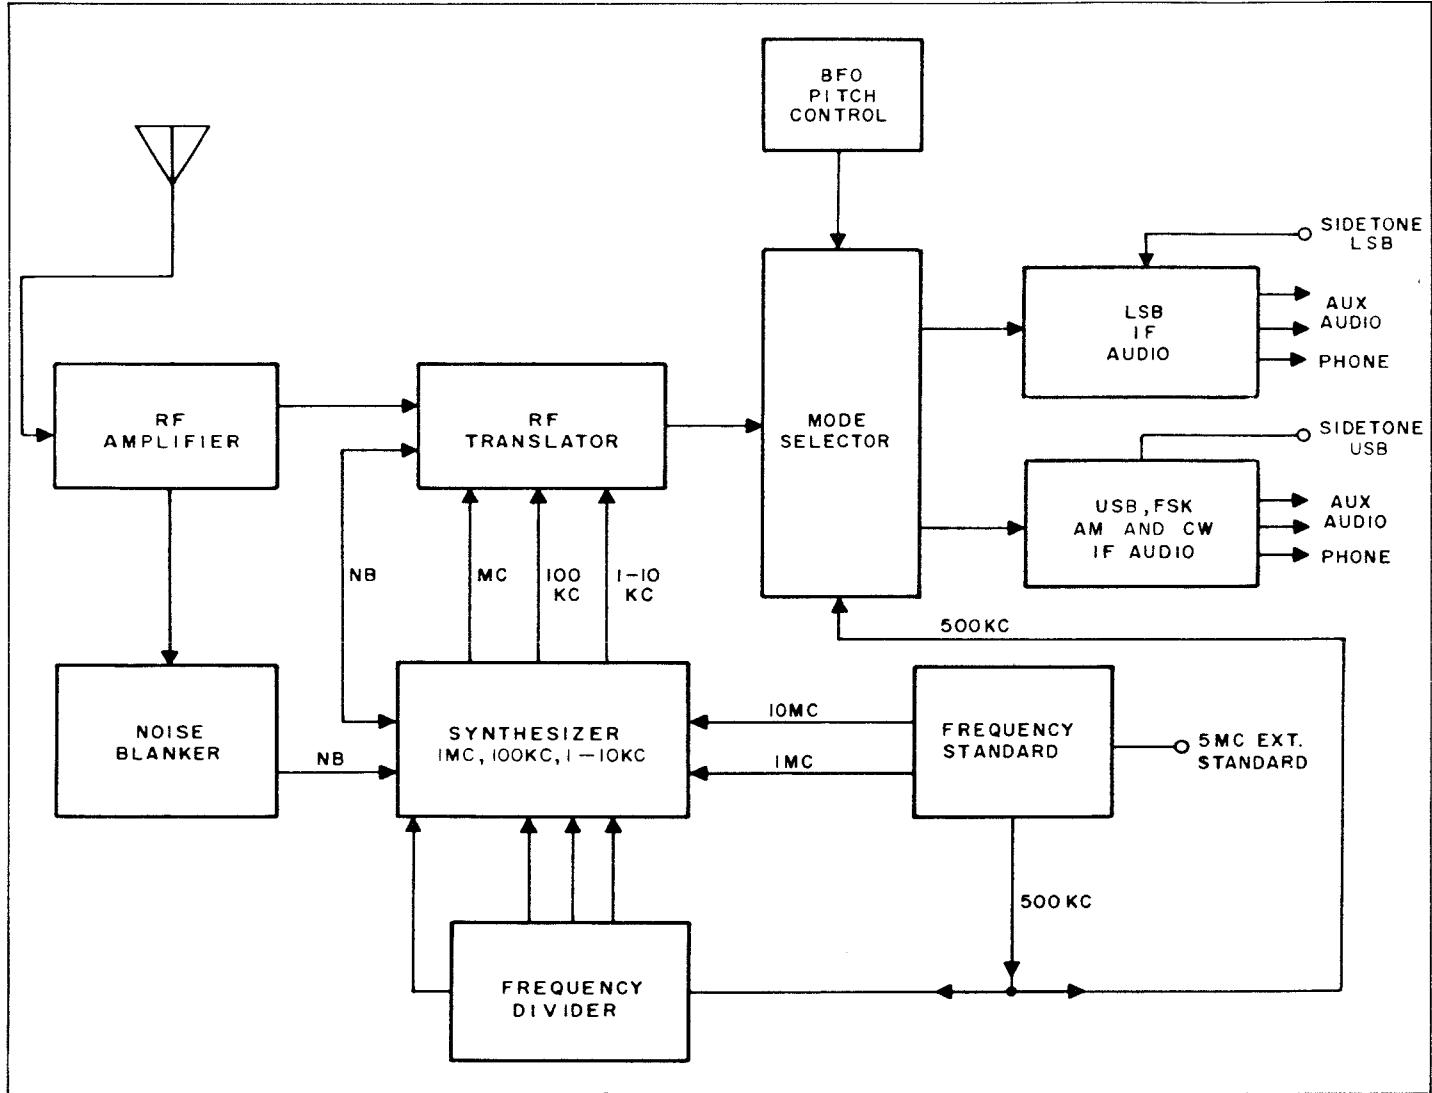

Figure 2-2. Radio Receiver SC-910R, Functional Block Diagram
2.1.2 Operation. Received signals from the antenna (see figure 2-2), are coupled to the antenna tuning circuit by an impedance-matching network. Two stages of RF amplification and four turret-tuned circuits provide an amplified RF signal in the range of 2 to 30 megacycles. The RF signal is converted to an IF of 500 KC in the RF Translator Synthesizer. The RF signal is mixed with injection frequencies originating in the frequency standard and divided down to the proper frequency range by the Frequency Divider, the 1 MC Synthesizer and the 100 KC, 10 KC, and 1 KC Synthesizers.